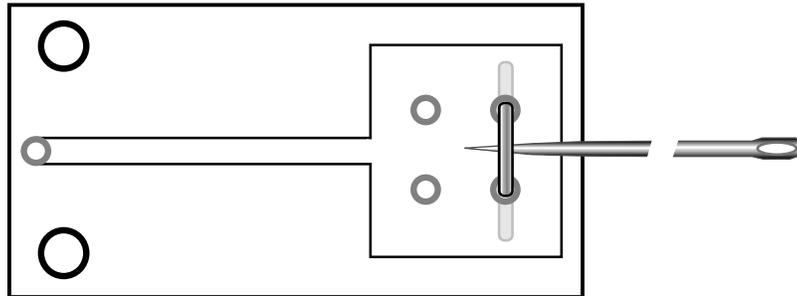

Figure 9
- You can decrease the spacing between the lever and the silver contact wire, if desired, by lifting the center of the wire slightly using the tip of a very thin sewing needle (Figure 9). This will move the center of the wire upward by about 1/100" (0.25 mm). The ideal spacing must be determined experimentally. If the spacing is found to be too close, the wire can be squeezed back down slightly using long-nose pliers.